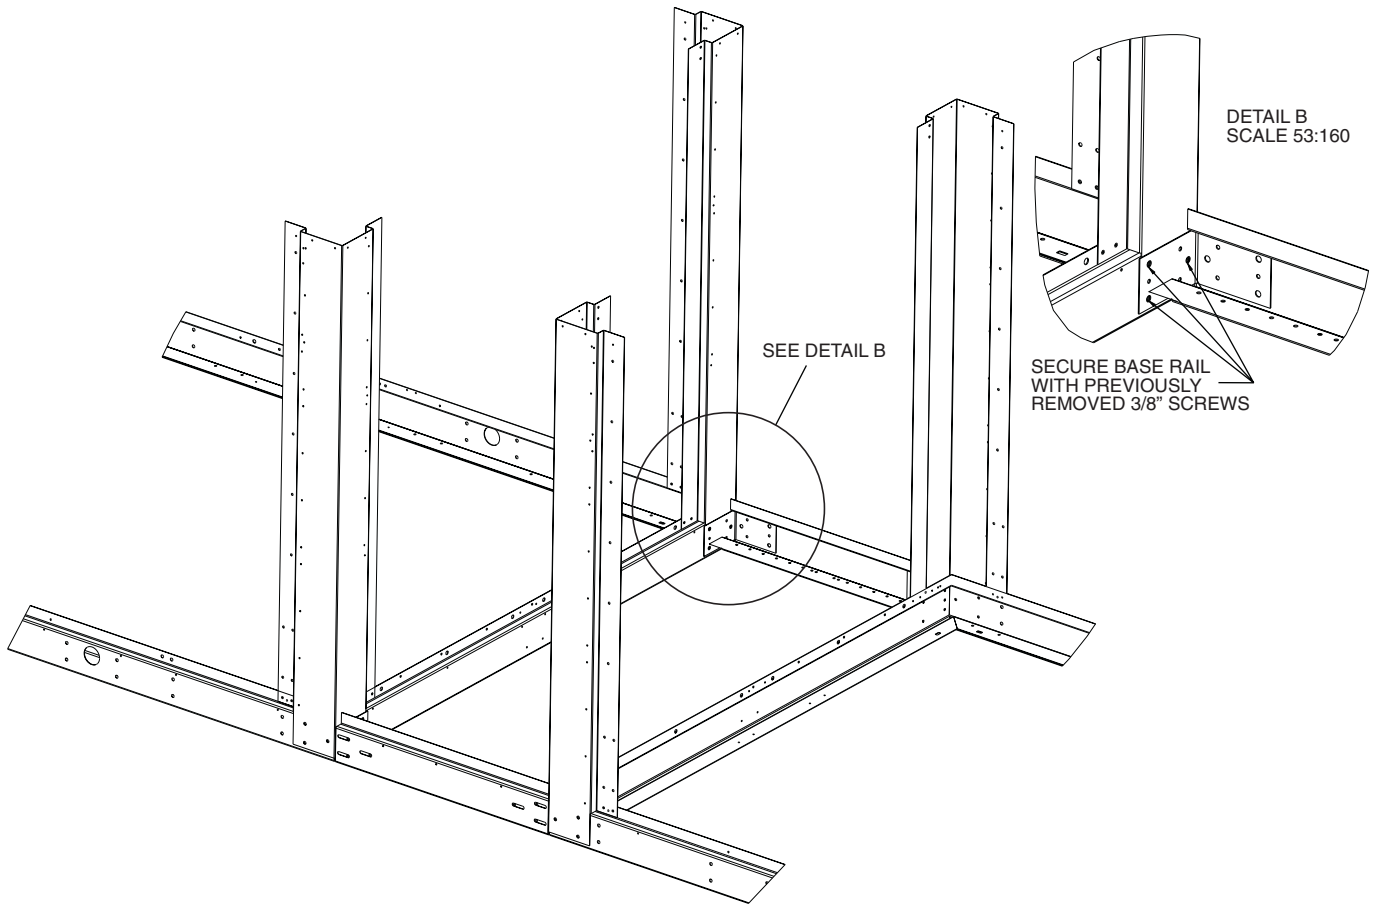

Fig. 3 — Base Rail and Corner Post Detail
4. Using the assembled parts from Step 2, place a base rail section on each side of the center area. Using the base rail screws from Step 3, secure each base rail angle to its corner post. See Fig. 3.